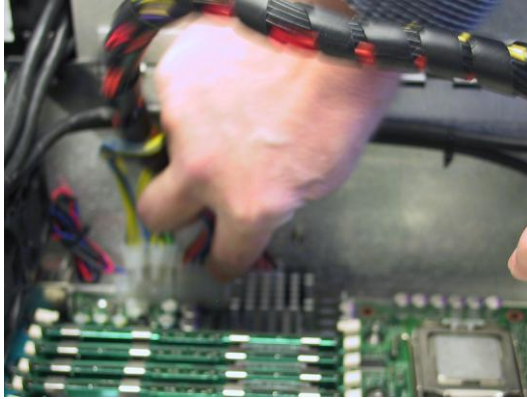

Figure 5-87
- 4) Disconnect the ATX 24-pin power connector from the motherboard. Pull the connector up while using a flat-blade screwdriver to push the top of the release catch (facing the bottom of the chassis) into the body of the connector (Figures 5-87 and 5-88).